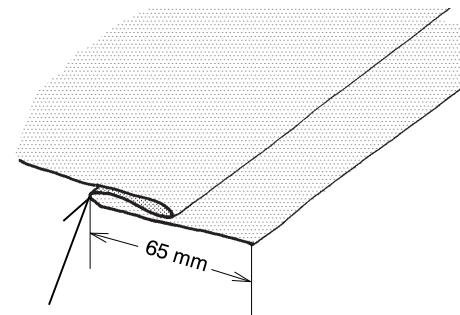

Fig. 1
1. Turn up the hem to the required depth and press. Fold the hem back against the *\$right\$* side of the garment, creating a *\$soft\$* fold on the *\$wrong\$* side of the fabric – See Fig. 1.